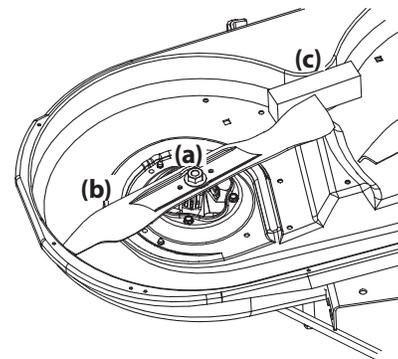

Figure 4-18
2. Use a 1⁵/₁₆" wrench to hold the hex nut on top of the spindle assembly when loosening the hex nut (a) securing the blade (b). A block of wood (c) may be placed between the deck housing and the cutting edge of the blade (b) to help in breaking loose the hex nut (a) securing the blade. See Figure 4-18.